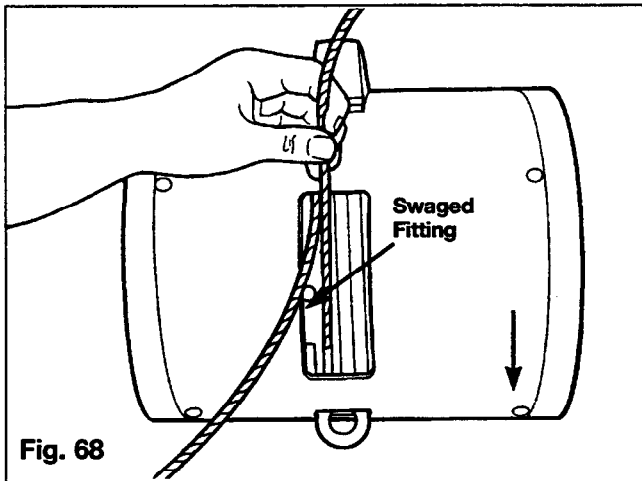

Fig. 68
1. Install new wire rope assembly, by first rotating the reel down (direction of arrow in Figure 68) until the anchor hole in the reel is visible.
2. The end of the wire rope is inserted down through the anchor hole in the reel and into the groove. Continue pushing wire rope into groove until the end appears at the top of the reel. Grasp this end and pull until swaged fitting on the end of the wire rope is pulled into the anchor hole in the reel (Figure 68).